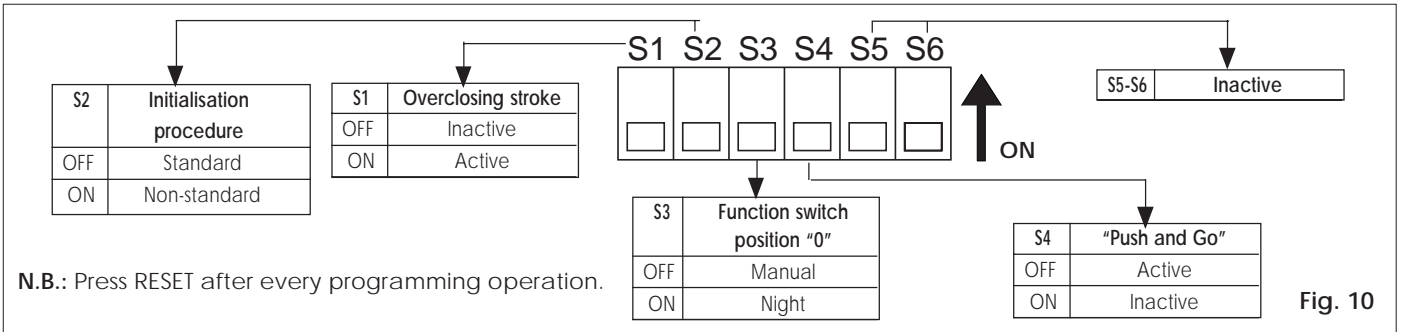

Fig. 10
- 4) Check that the programming unit microswitches (fig. 10) are all in the **OFF** position.
5.3. PROGRAMMING THE MICROSWITCHES (fig. 10)
The programming unit has a series of microswitches which allow the functions shown in fig. 10 to be selected. The system is supplied with all the microswitches in the OFF position.